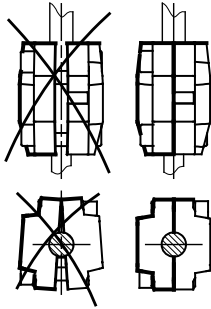

Fig. 5 Gaps between coupling halves (10a)
14. Hold the shaft and coupling in this position and tighten the four screws in the coupling (9) diagonally to the torque stated. See section 2. Torques and lubricants. Check that the gaps on either side of the coupling halves (10a) are equal. See fig. 5.
15. Press the ring with the three set screws (113) against the hexagon plug.
16. Tighten the screws (113) with 2.5 Nm.
18. Fit the coupling guard (7) and the screws (7a).